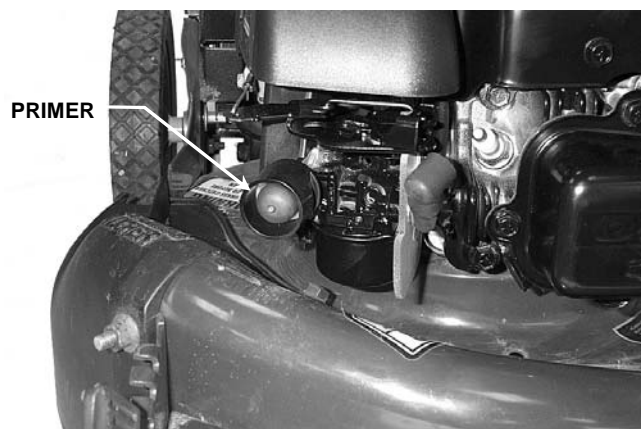

FIGURE 2.4
2. Push primer bulb three times to start a cold engine. **NOTE:** Primer should not be required to restart a hot engine. See Figure 2.4.